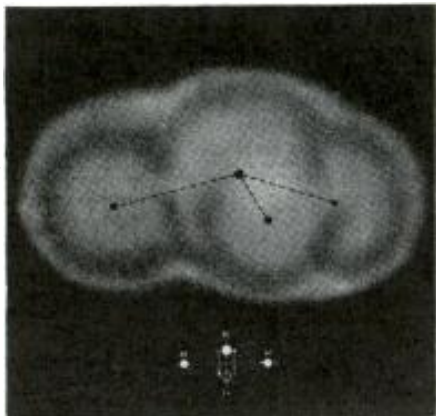
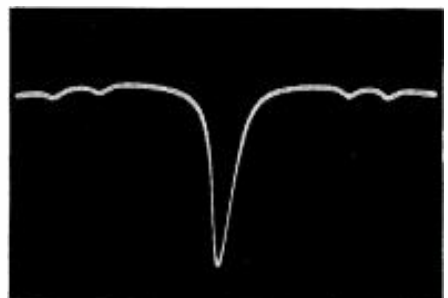
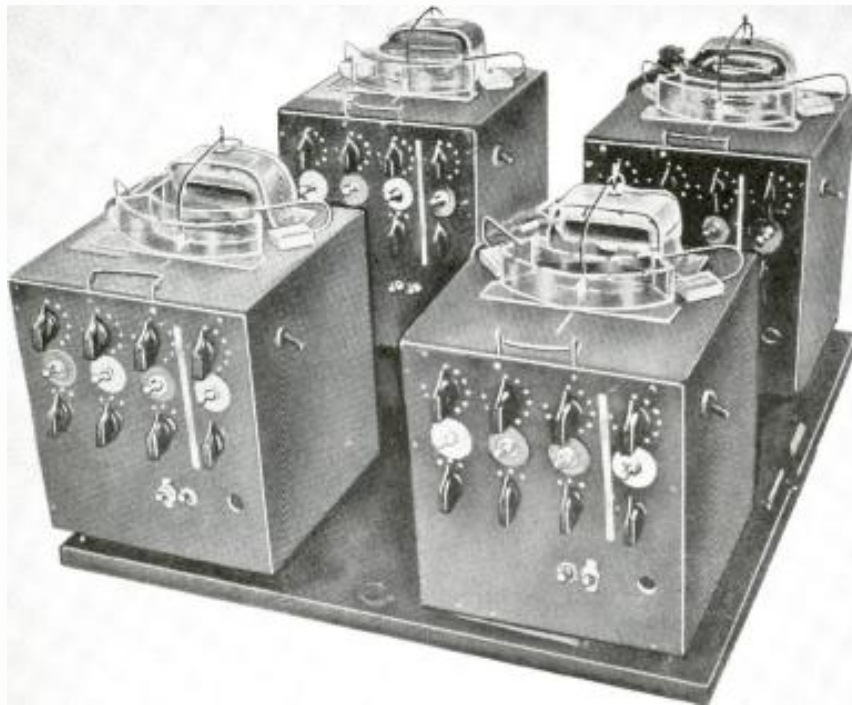

Fig. 1—R.f. alters nitrogen atom's position.
Fig. 2—Ammonia absorbs only one frequency.
Fig. 1—The homeostat, with its four units, each one of which reacts on all the others.
The ammonia molecule consists of three atoms of hydrogen and one of nitrogen, with the nitrogen atom slightly above the plane of the hydrogen atoms (Fig. 1). Outside forces (such as radio waves) can make the nitrogen atom change its position as shown in the figure, so that instead of being a flattened pyramid pointing upward (for instance), it becomes one pointing downward. A radio wave at the natural oscillating frequency of the nitrogen atom will cause large numbers of atoms to change their positions or oscillate back and forth, drawing power from the wave as they do. Thus ammonia gas absorbs power from a radio wave at its own frequency, and does not absorb power from nearby frequencies (Fig. 2). The gas molecule thus gives an exact frequency indication.
The homeostat consists of units, four of which are shown in Fig. 1. Each carries on top a suspended magnet, shown in Fig. 2, and the behavior of these four magnets provides the focus of interest.
Each magnet (M in Fig. 3) is affected by currents in the four coils around it, the currents coming partly from the other units (A, B, C) and partly as a self-feedback (D). (The apparently single coil of Fig. 2 is composed of the four coils of Fig. 3). In front of each magnet is a trough of water with electrodes at each end at -2 v and -15 v respectively. The magnet
Fig 2—Quadruple coil ABCD encircles magnet M which is suspended by the needle pivot. The suspending wire extends forward on its end into the water in the semicircular plastic trough which has electrodes at each end. Potential for the grid is taken from the pivot socket.